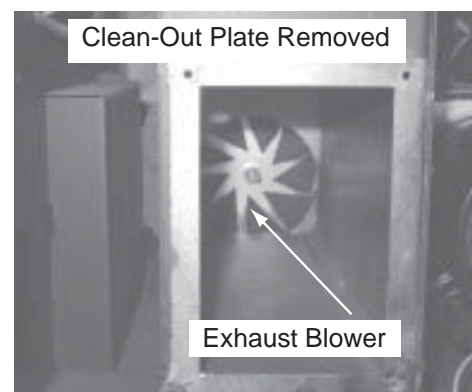

Figure 32.4
3. Use a small vacuum hose attachment to clean area. **Figure 32.4.**